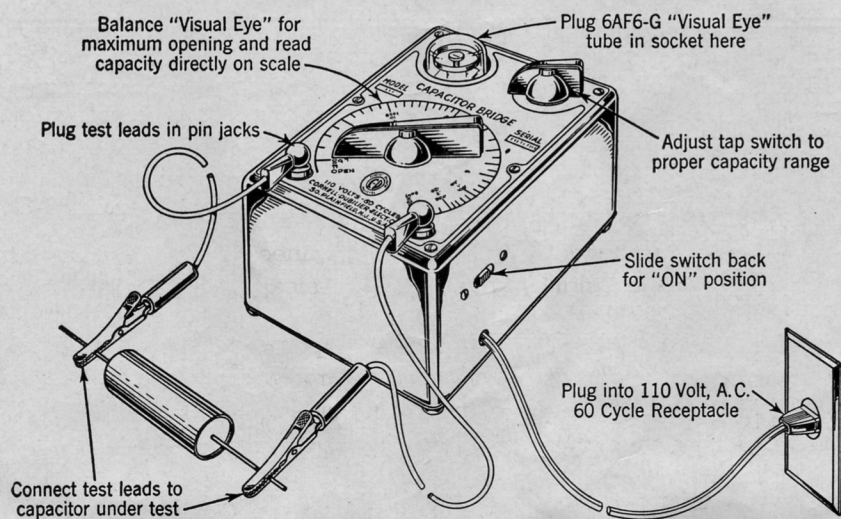

FIG. 3
4. Insert 6AF6-G tube in panel socket as shown in Fig. 3.